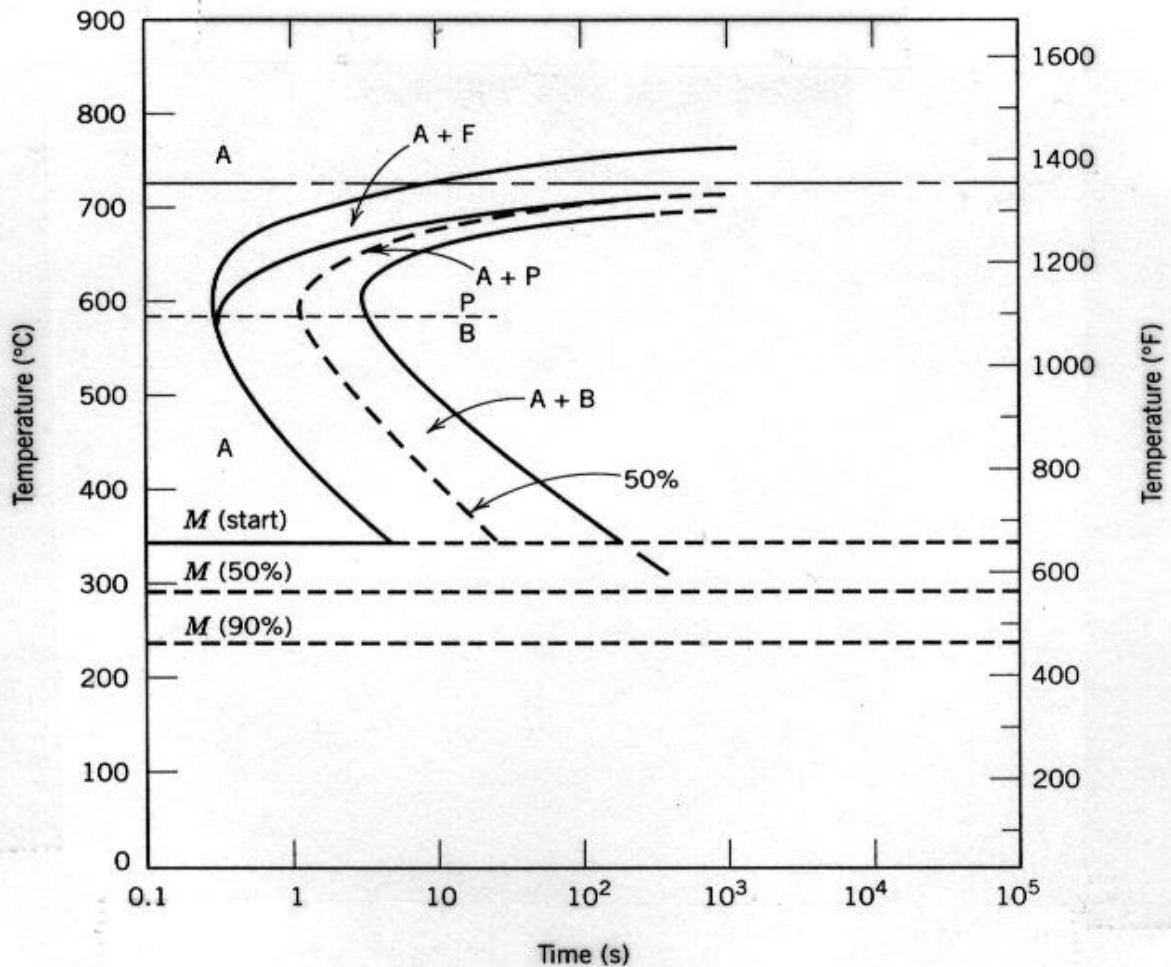

Figure Q2 – IT Curve
- (b) Using the IT curve shown in Fig.Q2, on page 3, for an AISI 1045 steel, describe the microstructure (phases present and relative amounts) at the conclusion of each step described below.